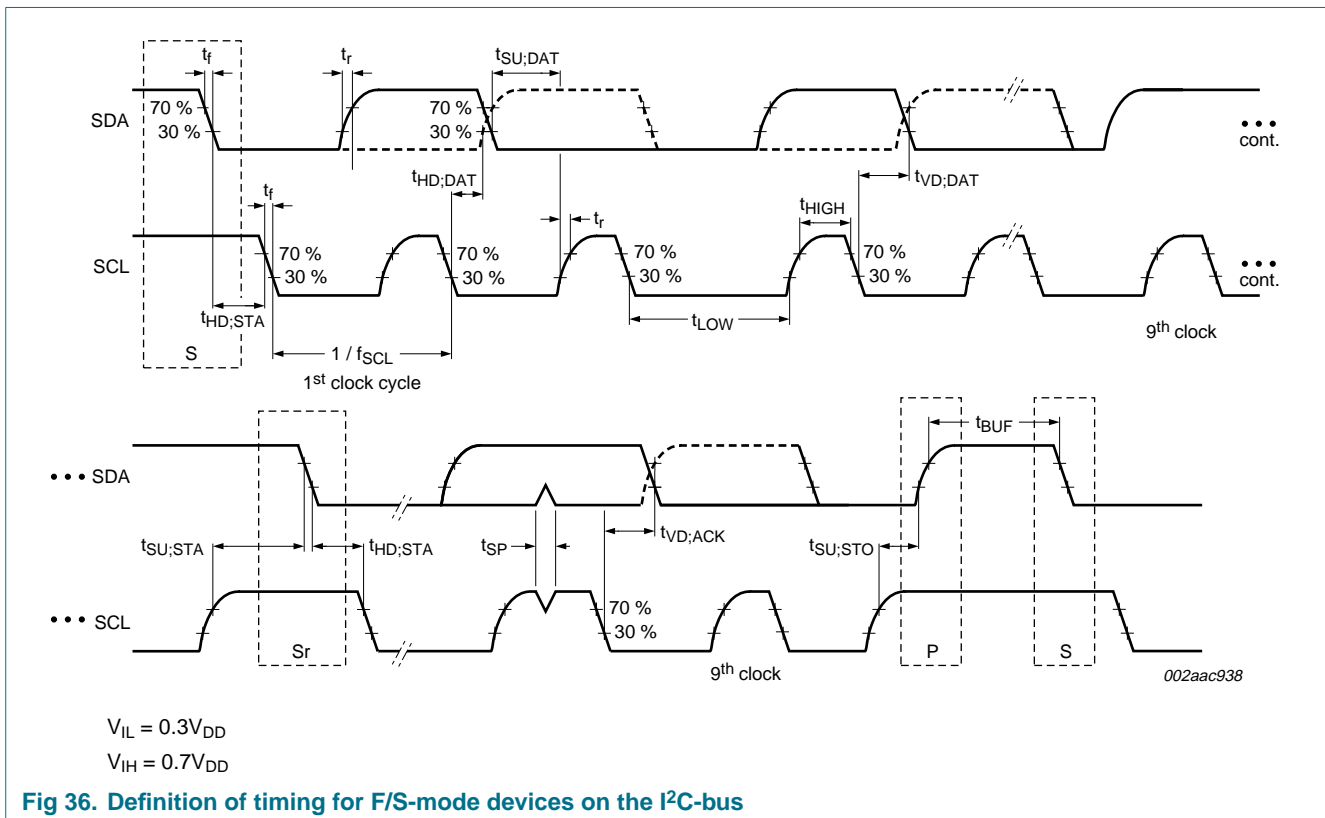

Fig 36. Definition of timing for F/S-mode devices on the I²C-bus
Modifications: <ul style="list-style-type: none"> • Section 1 “General description”: <ul style="list-style-type: none"> – 1st paragraph, 1st sentence: changed from “provides 256-byte EEPROM of memory” to “provides 256 bytes of EEPROM memory” – 2nd paragraph, 1st sentence: changed from “Placing the Temp Sensor (TS) on DIMM” to “Placing the Temp Sensor (TS) on a DIMM” – 2nd paragraph, 2nd sentence: changed from “the ambient temperate” to “the ambient temperature” – 4th paragraph, 1st sentence: appended “using an open-drain output that can be pulled up between 0.9 V and 3.6 V” • Table 1 “Ordering information”: topside mark for SE97TK/1 changed from “S97/1” to “97/1” • Section 7.3 “EVENT output”: added (new) 2nd paragraph • Section 7.9 “SMBus/I²C-bus interface”, 1st paragraph, 2nd sentence: changed from “is set to ‘00b’.” to “is set to ‘00h’.” • Figure 20: title modified; added “3.3 V” to topmost signal line (V_{DD}). • Added (new) Figure 21 • Table 26: removed power dissipation specification • Table 27 “Characteristics”: specifications for I_{DD(AV)}, I_{sd(VDD)}, and I_L removed from this table • Figure 27 “EVENT output current” modified • Table 28: <ul style="list-style-type: none"> – changed table title from “SMBus DC characteristics” to “DC characteristics” – added I_{DD(AV)} specification – added I_{sd(VDD)} specification – I_{OL(sink)EVENT} minimum value changed from “1 mA” to “2 mA” – I_{LOH}: added “EVENT” to conditions; min value changed from (blank) to “–1.0 μA”; max value changed from “-” to “+1.0 μA” – I_{LH} conditions changed from “V_I = V_{DD} or V_{SS}” to “SDA, SCL; V_I = V_{DD}” – I_{LIL} conditions changed from “V_I = V_{DD} or V_{SS}” to “SDA, SCL; V_I = V_{SS}”; added condition and values for A0, A1, A2 pins – removed I_{stb} specification – added I_L specification – added I_{pd} specification • (old) Figure 35 and Figure 36 replaced with (new) Figure 36 “Definition of timing for F/S-mode devices on the I²C-bus”